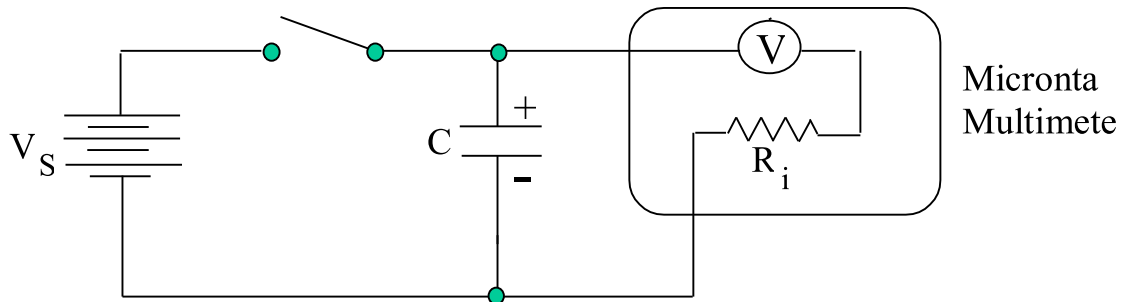

Figure 3
2. Construct the circuit as shown in Figure 3, making sure the electrolytic capacitor is connected with correct polarity. Notice that when the switch is closed, current will flow until the capacitor is completely charged, after which the current flow stops. When the switch is opened, the capacitor discharges. The current flows through the Micronta Multimeter (which is being used as a voltmeter) which contains an internal resistor  $R_i$ . The voltmeter acts as the load resistor for the
5. Adjust the vertical and horizontal positioning knob, the time/div scale, and the V/div scale for Channel 1 until you obtain the charging/discharging trace. Expand the trace so that it extends across the whole 8 divisions of the screen, only making visible one complete period of the square wave. The screen on your oscilloscope should look similar to Figure 3.